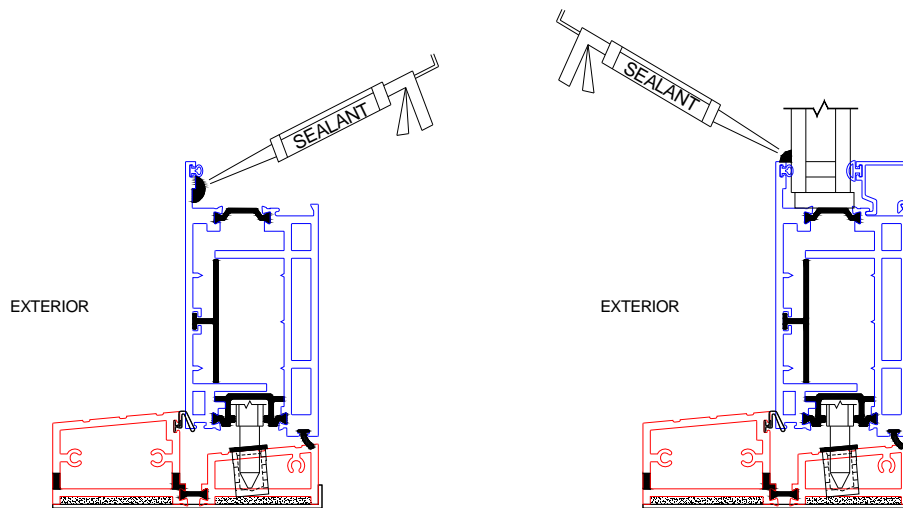

Figure 14
- Apply a continuous bead of sealant before and/or after glazing. (Figure 14).